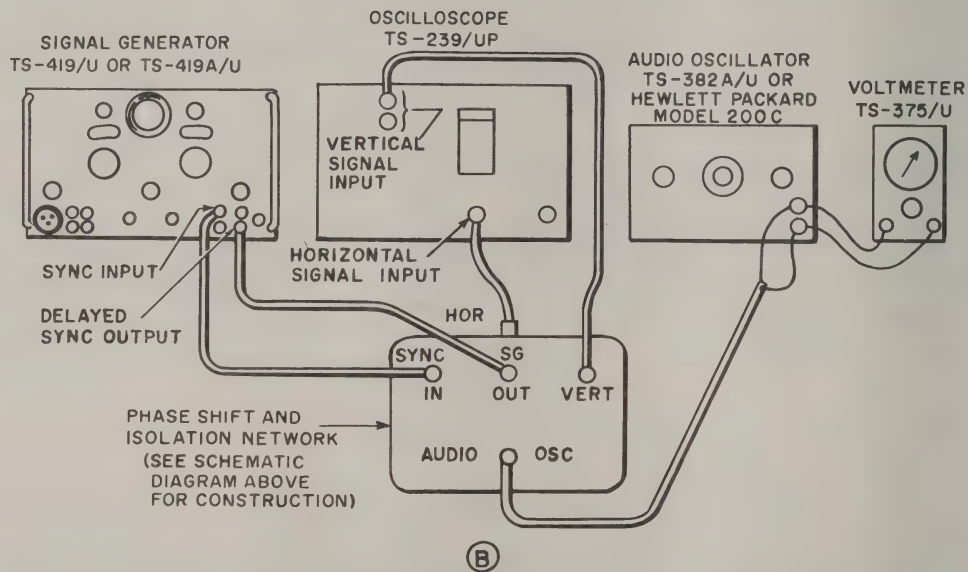

Figure 4-7. Test Connection Diagram for Measurement of Pulse Repetition Rate and Sine Wave Synchronizing Characteristics
(1) Connect the required test equipment as shown in Part B of figure 4-7. (A schematic diagram of the phase shift and isolation network referred to in part B of figure 4-7 is shown in part A of figure 4-7.) Turn the equipment on and allow a 20-minute warm-up period to insure complete stabilization.
(1) Connect the required test equipment as shown in part B of figure 4-7. (A schematic diagram of the phase shift and isolation network referred to in part B of figure 4-7 is shown in part A of figure 4-7.) Turn the equipment on. Allow a 20-minute warm-up period to insure complete stabilization.
(2) Set Audio Oscillator TS-382/U, or equivalent, to produce 10 volts output at 40 cycles.
(3) Make the necessary adjustments on Oscilloscope TS-239/UP to produce an elliptical pattern of convenient size. The SWEEP TIME—COARSE control on the oscilloscope should be set to SWEEP OFF H AMP.
(4) Set the Signal Generator TS-419/U controls as follows: